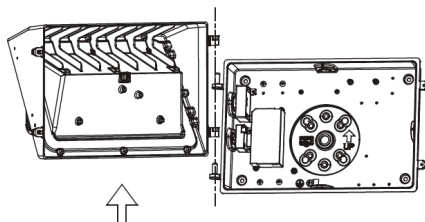

Fig. 2.2
2. Open the fixture, and remove the front cover of the fixture. (Fig. 2.2)